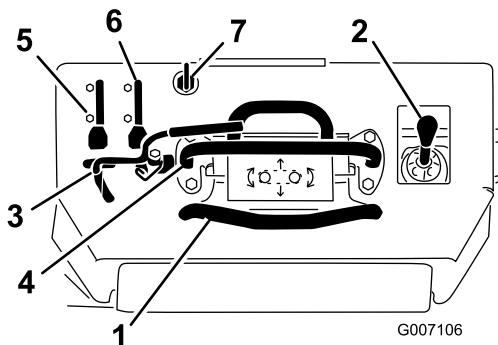
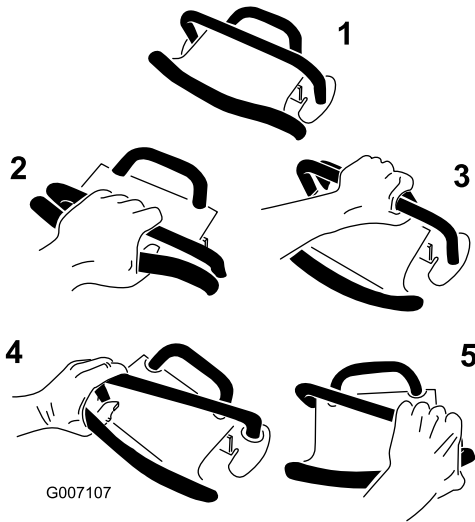

Figure 5
Figure 6
Become familiar with all the controls (Figure 5) before you start the engine and operate the traction unit.
- To move forward, move the traction control forward (number 2 in Figure 6).
- To move rearward, move the traction control rearward (number 3 in Figure 6). **When reversing, look behind for obstructions and keep your hands on the reference bar (Figure 5).**
- To turn, rotate the traction control in the desired direction (number 4 and 5 in Figure 6).
- To stop, release the traction control (number 1 in Figure 6).